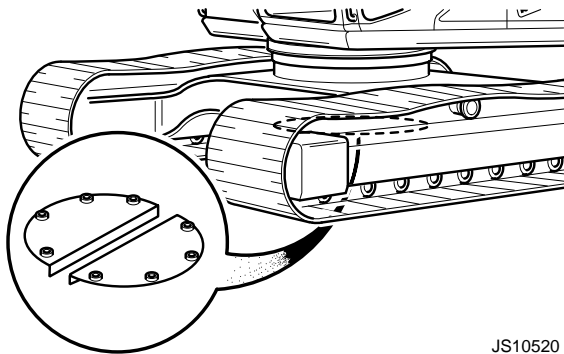

Fig 3.
- 3 Remove the belly plates. → Fig 3. (E-172)